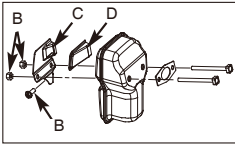

Fig. 17B
2. Remove the 2 screws that holds the cover (C). (Fig.17B)
3. Discard the used spark arrester screen (D) and replace it with a new one.